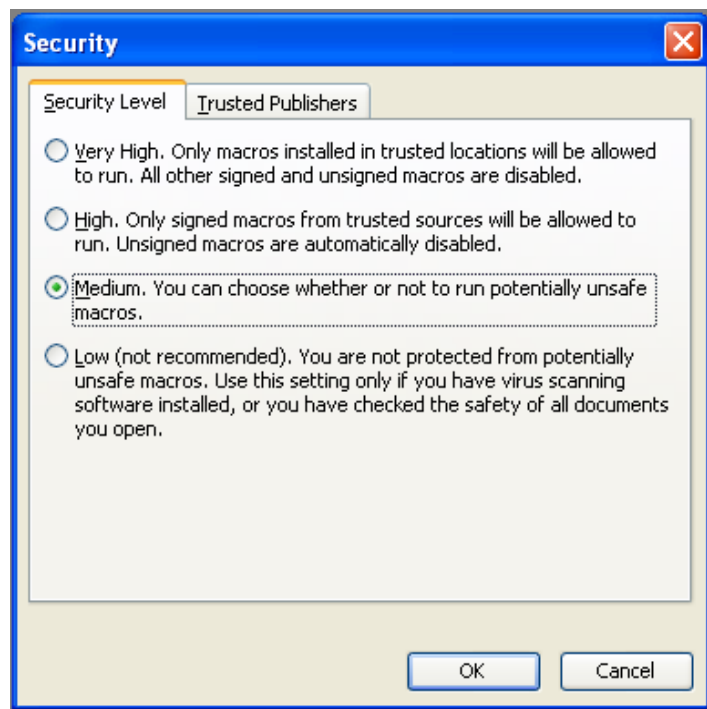

Figure B-4. Visio Macro Security Levels
- Start Visio. Select the *Tools> Macros> Security* menu item in Visio to access the Security dialog (Figure B-4).